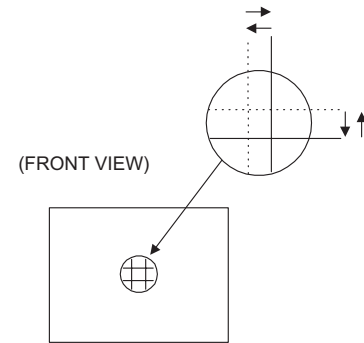

Fig.1
- (1) Input a crosshatch signal.
- (2) Using 4-pole convergence magnets, overlap the red and blue lines in the center of the screen (Fig.1) and turn them to magenta (red/blue).
- (3) Using 6-pole convergence magnets, overlap the magenta (red/blue) and green lines in the center of the screen and turn them to white.
- (4) Repeat 2 and 3 above, and make best convergence.